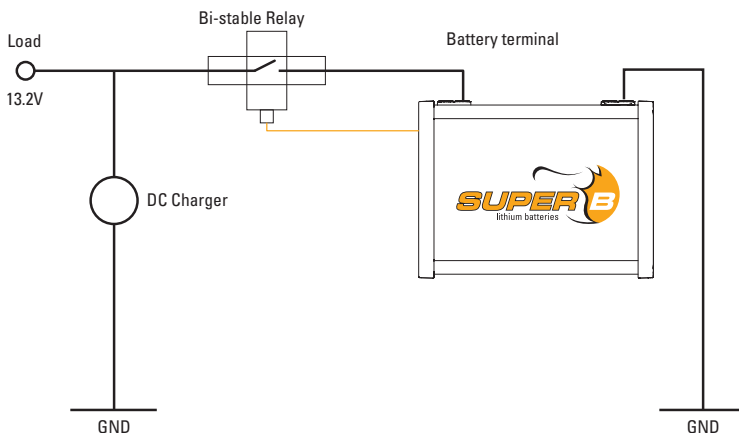

Figure 10. Connecting the charger
1. Connect the charger behind the BMS switch off device as displayed in Figure 10